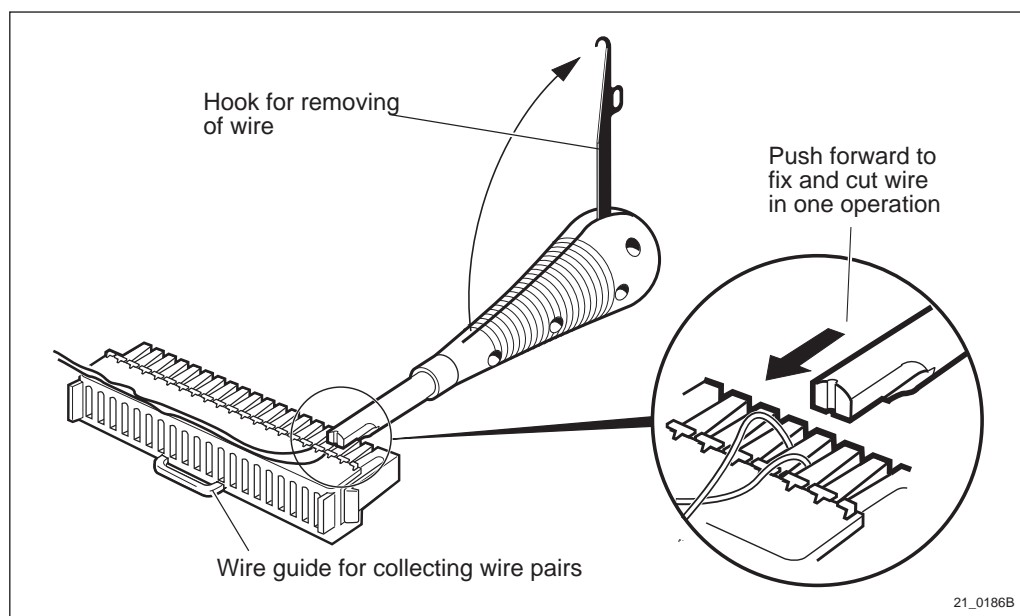

Figure 4 The use of Connection Tool LSY 138 252
9. Position the Connection Tool LSY 138 252 against the slot and the wire, see figure 4, and press the tool firmly into the slot. The wire is now connected and cut at the same time. Remove the tool and the excess wire.